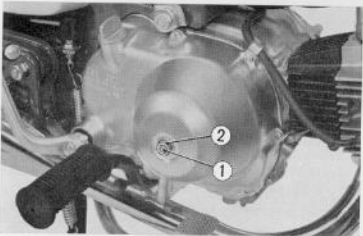

Fig. 5.19 Adjusting the clutch
The clutch adjustment is made at the clutch adjusting screw. ① (Fig. 5.19)
1. Loosen the lock nut ② and turn the adjusting screw ① to the left, using a screwdriver, until the turning becomes hard and then turn in the opposite direction about  $\frac{1}{8}$  turn and tighten the lock nut. This should provide the proper automatic operation. (Fig. 5.19)